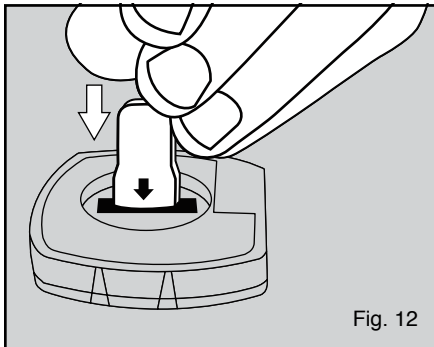

Fig. 12
13. Push the signal cable attached to the soap discharge head thru the opening in the support shaft (see figure 12).